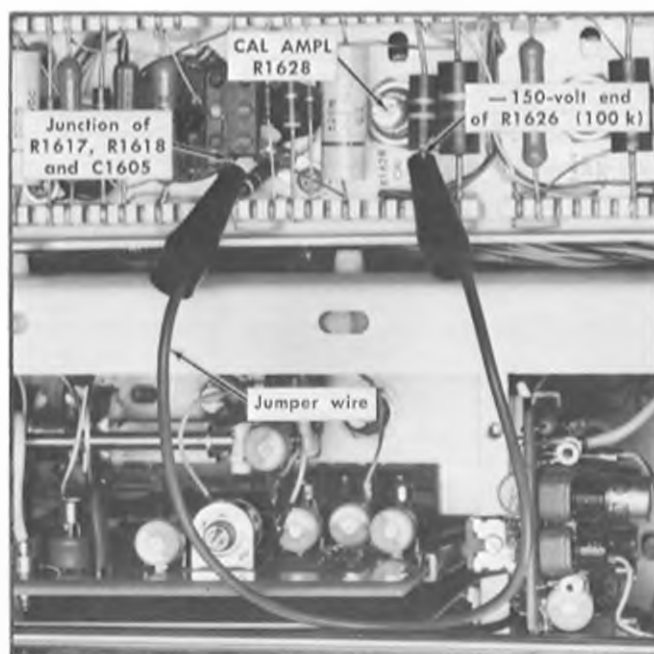

Fig. 6-13. Method of adjusting Amplitude Calibrator.
- g. Adjust R1628 (Fig. 6-13) to reduce the display amplitude to zero.
- i. Connect a short jumper wire with insulated clips between the points shown in Fig. 6-13. Care should be used to avoid touching adjacent components or leads with the jumper terminal clips.